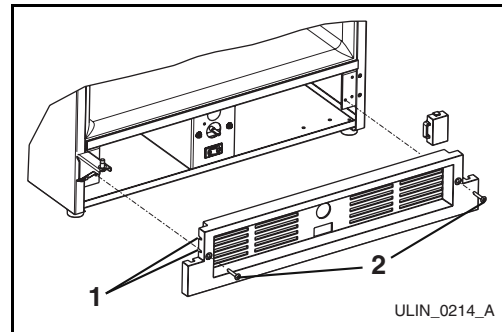

Figure 29
- Make sure grille cap is behind grille in slots provided in grille (**Figure 29, 1**) before attaching grille to unit, and secure but do not overtighten both grille screws (**Figure 29, 2**).